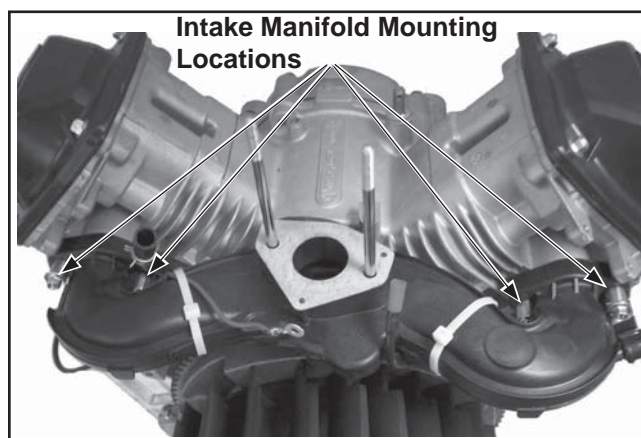

Figure 8-22. Intake Manifold Mounting Locations.
2. Remove the intake manifold and O-Rings. Leave the wiring harness attached to the manifold. See Figure 8-22.